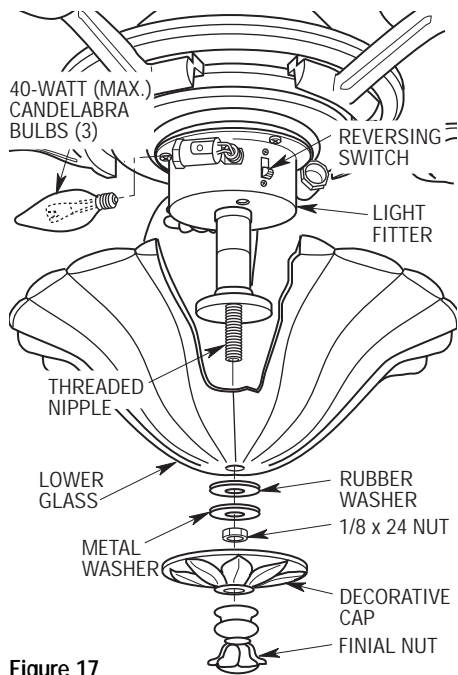

Figure 17
- 7. Screw in three 40-watt (maximum) candelabra bulbs in the light fitter sockets (Figure 17). Carefully place the lower glass over the light fitter threaded nipple. Be sure the glass is firmly seated on the fitter, then secure in place using a rubber washer, metal washer, and 1/8-27 nut (washers and nut are supplied).
- 8. Place the decorative cap over the threaded nipple and then screw on the finial nut (Figure 17).
- 6. If airflow is desired in the opposite direction, turn the fan off and wait for the blades to stop turning. Remove the lower glass (Figure 17), then slide the reversing switch (located on the light fitter) to the opposite position and turn the fan on again. The blades will turn in the opposite direction and reverse the airflow.